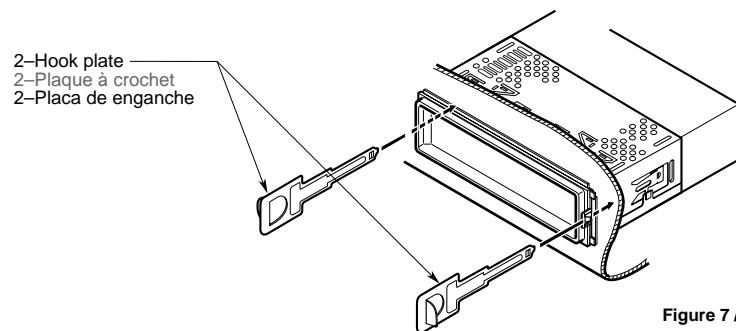

Figure 7 / Figure 7 / Figura 7
- Insert and lock the hook plates. (Figure 7)